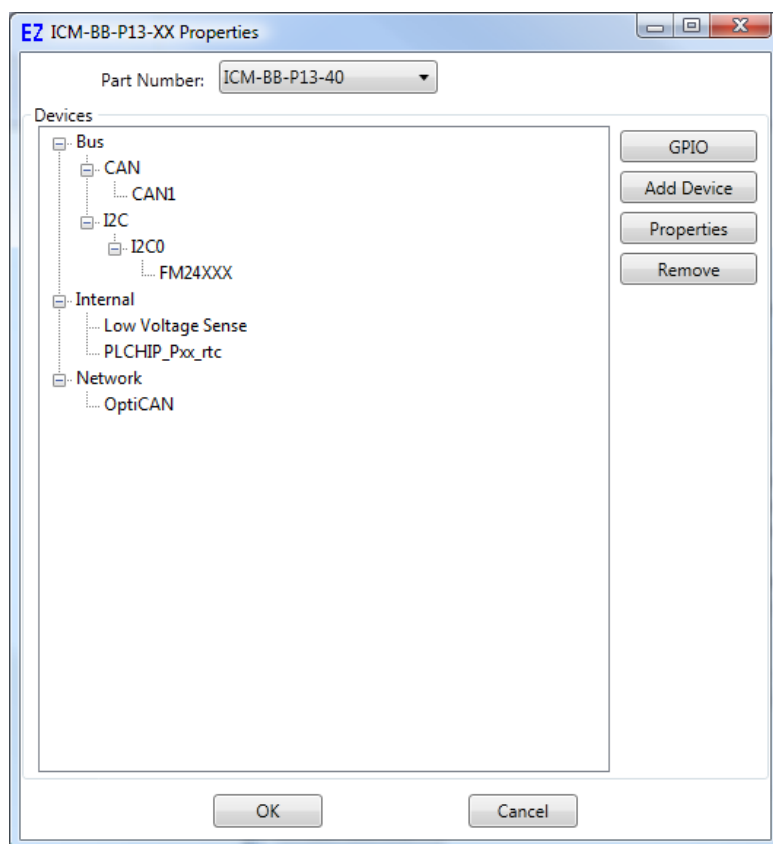

Figure 1-2 - ICM-BB-P13-XX Properties
3. Using the Drop-down Part Number select box, select the model of the P13 Series Bear Bones Controller. Refer to Figure 1-2. With the model selected, the Devices pane will update with the currently selected features for the ICM-BB-P13-XX. The **ADD DEVICE** button is used to install and configure additional features such as Ethernet that are not automatically loaded and configured. For this example, we will not add additional features at this time. These features may be installed and configured by re-visiting this window. By default, the CAN (I/O port), I2C (Retentive Memory), Low Voltage Sense, Real Time Clock, Analog I/O and OptiCAN are installed. Additional items must be added and configured if required.